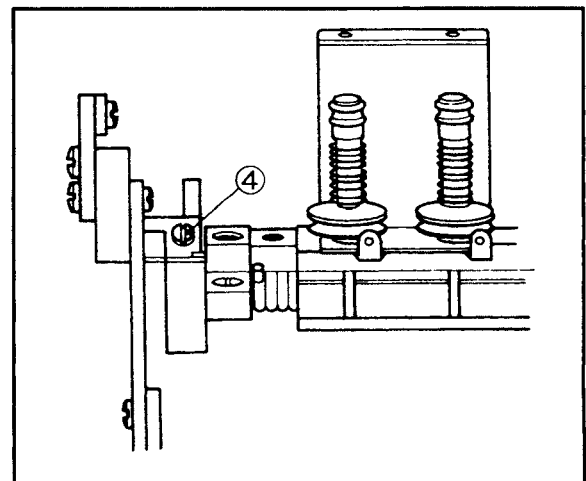

Fig. 13
- (1) Loosen the screw④of the persser bar lifter lever (large).(Fig. 13)
- (1) 放開提昇擺臂(大)的螺絲④。(Fig. 13)